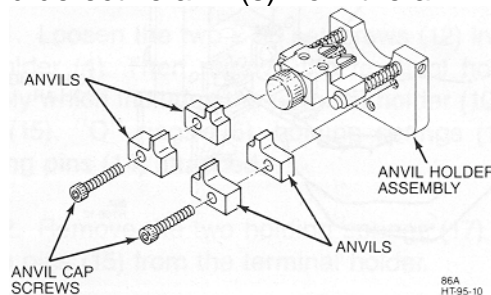

Figure 8
3. Remove the cap screw(s) and defective anvil(s) from the anvil holder assembly (see Figure 8).